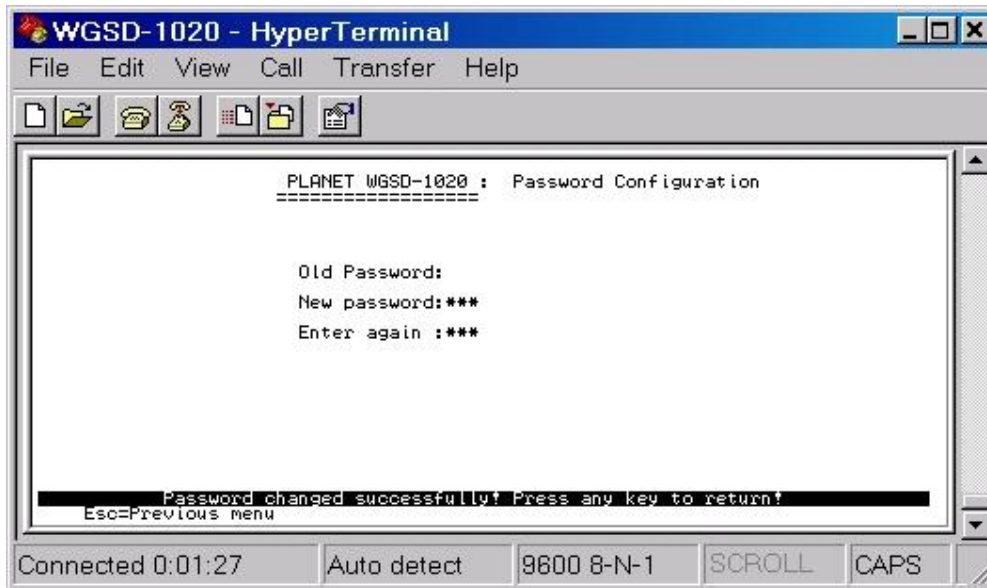

Figure 4-16 Password Configuration screen
4. Press “**Enter**” to apply the new password.( see the Figure 4-16)